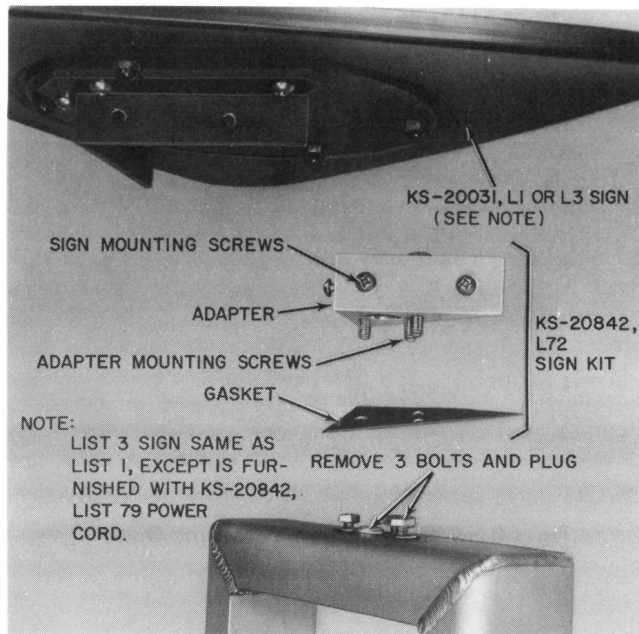

Fig. 27—Installation of KS-20031, List 1 or 3 Sign
- A KS-20842, List 72 sign kit is required (Fig. 27 and 28).
- 3.19** Install a KS-20031, List 1 or 3 sign on a KS-20842 telephone enclosure per Fig. 27 and 28.